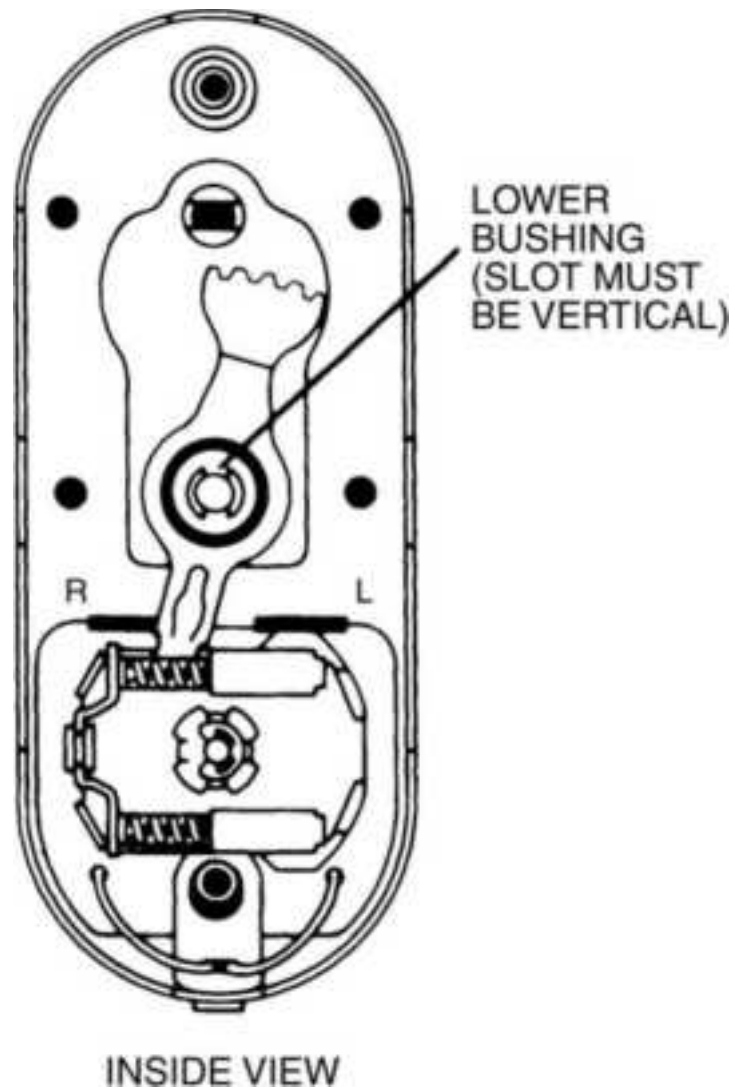

**Figure 13.102** Right-hand conversion, Step 10.
10. Install the lower bushing (Fig. 13.102 ).